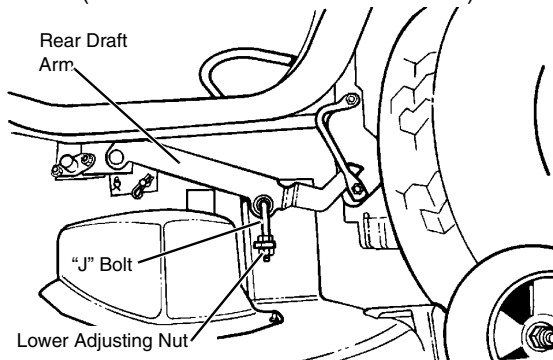

FIG. 31
- Using a 15 mm wrench, loosen top clamping nut on left hand side "J" bolt facing inside of mower approximately 1 turn. (See FIG. 31)